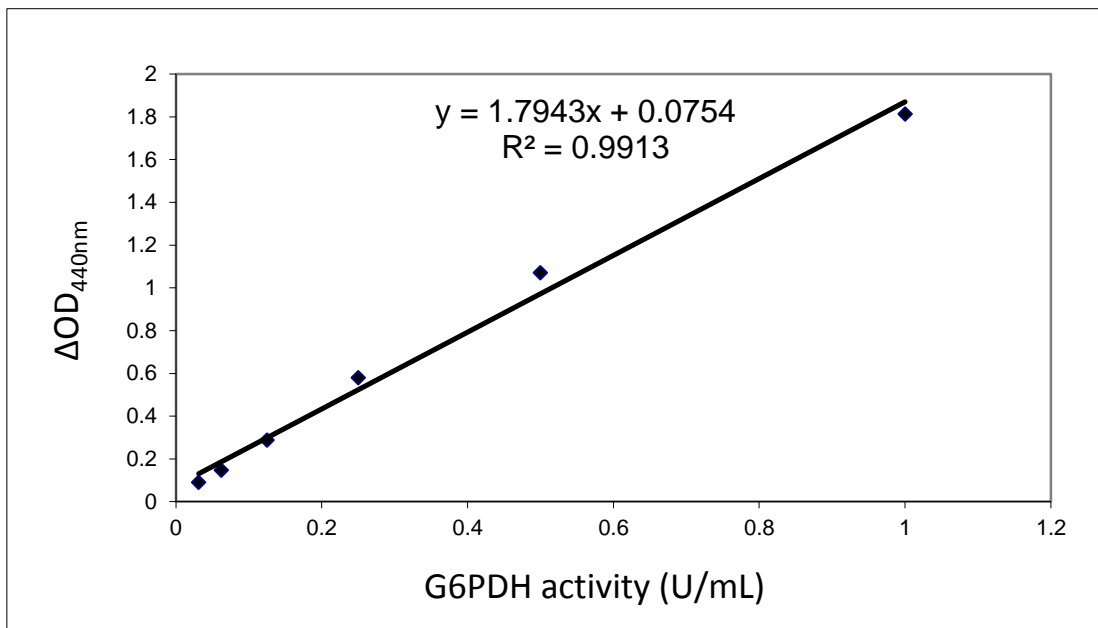

Figure1. A typical G6PDH standard curve measured by ScienCell™ Glucose-6-phosphate Dehydrogenase Assay kit
Data from glucose-6-phosphate dehydrogenase assay of G6PDH solutions with concentrations ranging from 0.02 to 1 U/ml show a linear relationship between OD_{440nm} and G6PDH activity (Figure 1).
2. Based on the calibrated ΔOD_{440nm} of the G6PDH standard, make a standard curve by plotting ΔOD_{440nm} as a function of G6PDH activity (See Figure 1 for a typical standard curve). Determine the equation and R^2 value of the trend line.